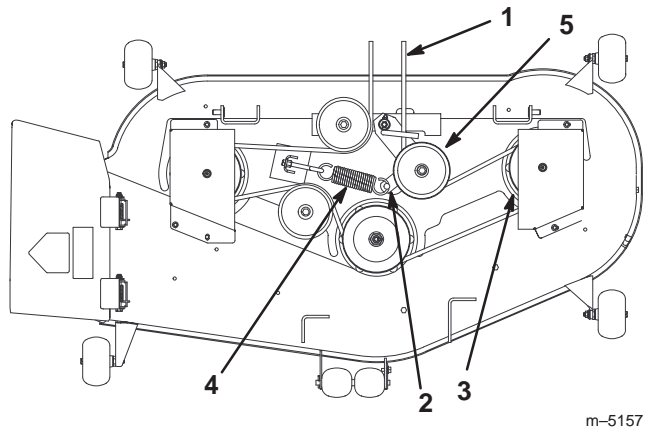

Figure 40
5. Remove the belt. Start at the outside pulley and rotate the belt off (Fig. 40).
8. Reinstall the idler pulley and route the belt onto the other pulleys (Fig. 40).